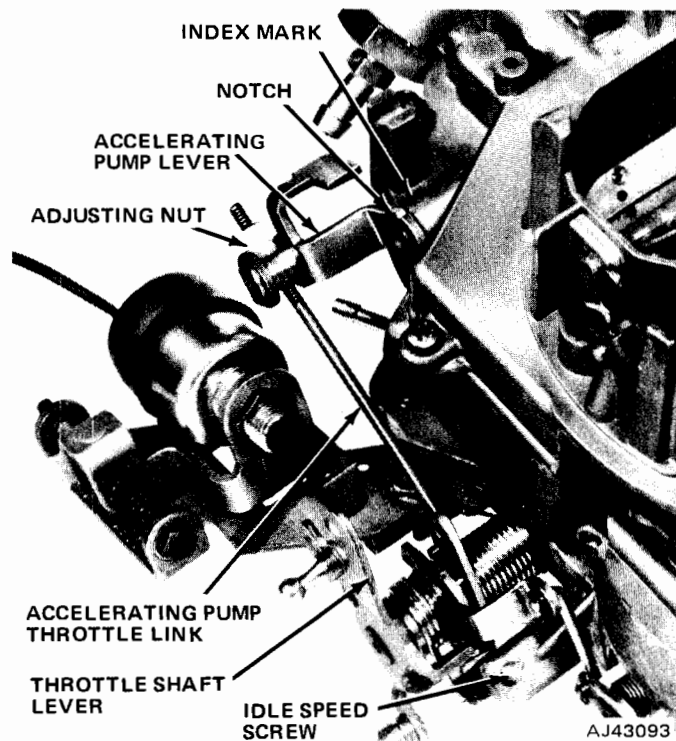

Fig. 4-84 Accelerating Pump Adjustment
(1) Back out idle speed screw until primary throttle plates seat in bore.
(2) Turn accelerating pump throttle link adjusting nut until the notch in the pump lever is aligned with the index mark on the air horn (fig. 4-84).
(3) Adjust by loosening the locknut and turning the dashpot.